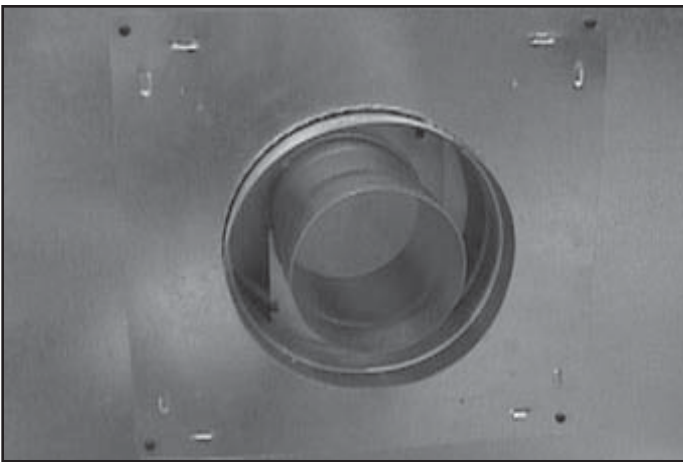

Figure 9.12 Cover Plate Placed on Rear of Appliance
- Locate the cover plate removed in the second step. Place plate around rear vented collars and replace four screws to hold plate in place. See Figure 9.12.